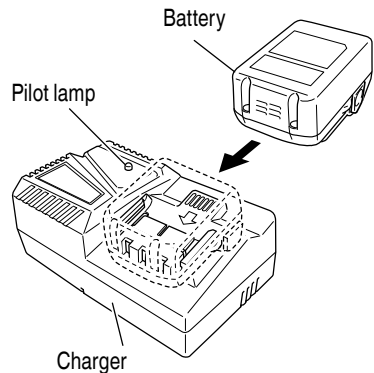

Fig. 5
2. Insert the battery into the charger. Firmly insert the battery into the charger as shown in Fig. 5.